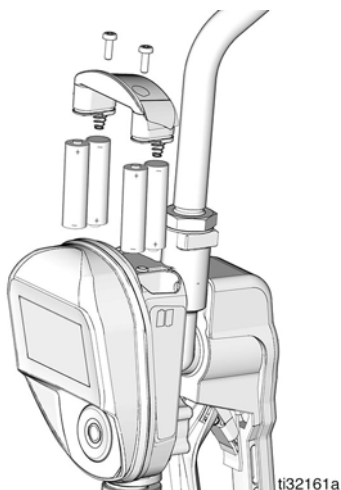

FIG. 2
- Be sure to follow the correct polarity as shown on the installation labels located on either side of the metered dispense valve when installing batteries in the battery compartment (FIG. 2).
4. Install 4 new batteries. See labels on the each side of the housing and FIG. 2 for battery orientation.